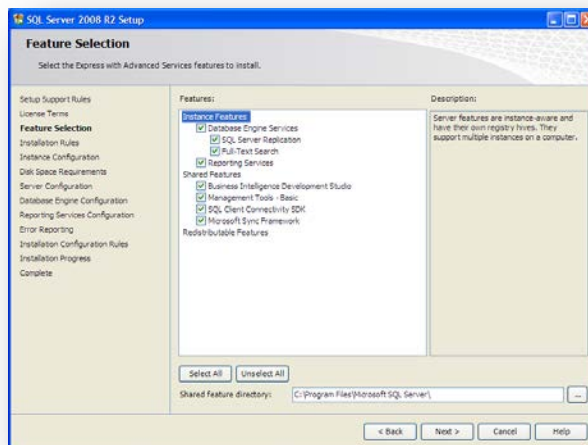

Figure 45 – Feature Selection
10. If Internet Information Services (IIS) is installed successfully, click “Close”. See Figure 45.